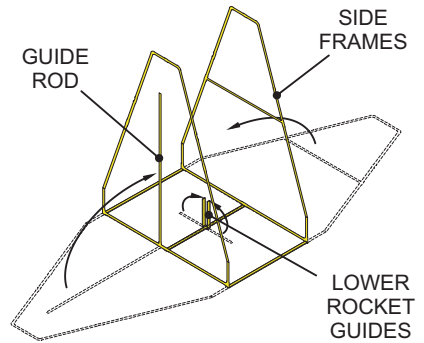
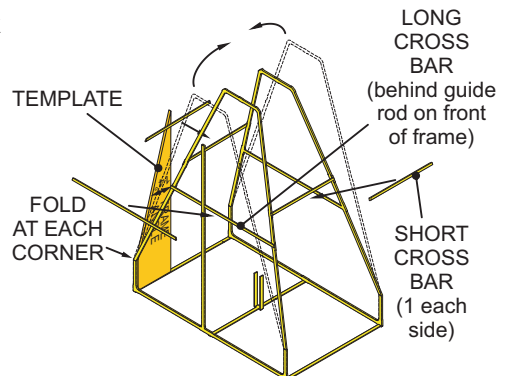

Figure 1
Figure 2
- (1) Fold the two rocket guides up through  $90^\circ$  as shown in Figure 1. (use the template from the etched fret to set them at this angle).
- (2) Fold the two side frames up through  $90^\circ$ .
- (3) Fold the guide rod at the front of the frame up through  $90^\circ$ .
- (4) There is a short vertical section at each corner of the launch frame. Bend the upper section of the front and back of this launch frame using the template as a guide, as shown in Figure 2.
- (5) Attach the long cross bar to the launch frame, behind the guide rod.
- (6) Attach the two short bars to the sides of the launch frame.